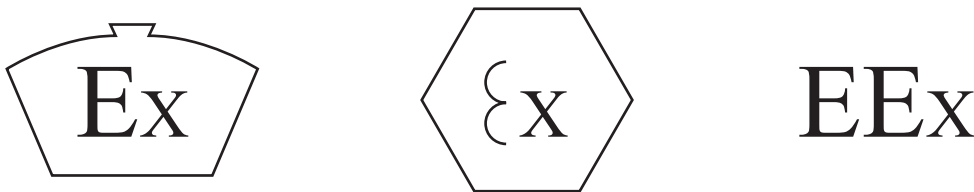

Figure 3.72 Flameproof equipment markings.
- PVC armoured cables terminated into accessories with approved flameproof glands or any other wiring system which is approved by the British Standard. All certified flameproof enclosures will be marked Ex, indicating that they are suitable for potentially explosive situations, or EEx, where equipment is certified to the harmonized European Standard. All the equipment used in a flameproof installation must carry the appropriate markings, as shown in Fig. 3.72, if the integrity of the wiring system is to be maintained.